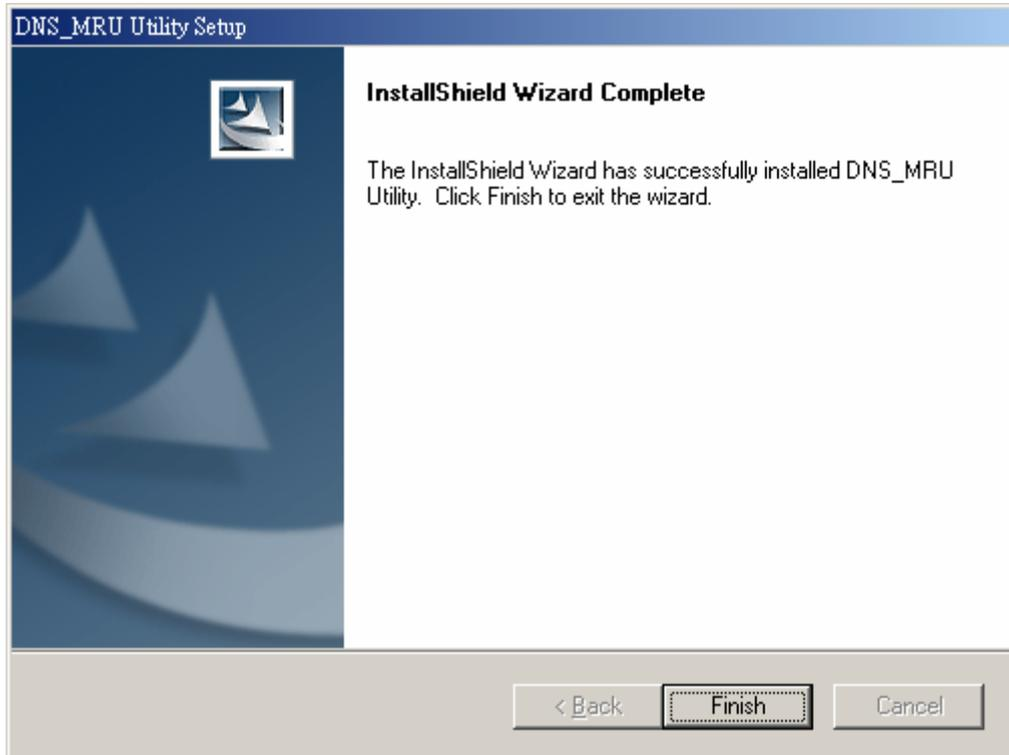

Figure 6-5. “Successful Completion of the Installation” dialog
Step 6: Click “Install” button and start to install the DNS_MRU Utility to the system. After finishing the process, a “Complete” window will pop up to prompt users that the successful completion of the installation. And click “Finish” button to exit. See figure 6-5.